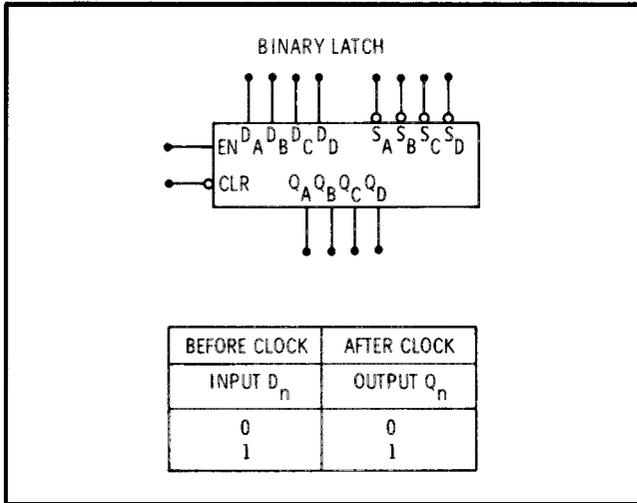

Figure 8-10. Binary Latch
8-54. Binary Latch. The four bit binary register shown in Figure 8-10 is used as a storage latch. Information data (Dn)* inputs is transferred to the respective Qn* outputs when the enable (EN) input